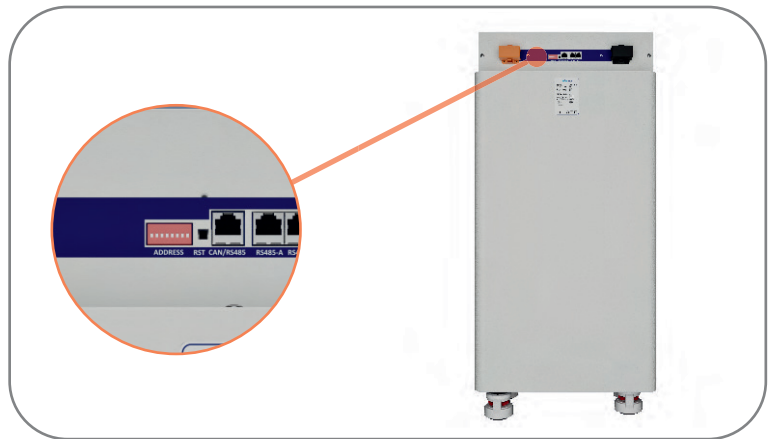

Figure 7.8
STEP 8: Before connecting the cables, refer to page 9 and configure the addressing settings for each battery according to the number of batteries to be used. (Figure 7.8)